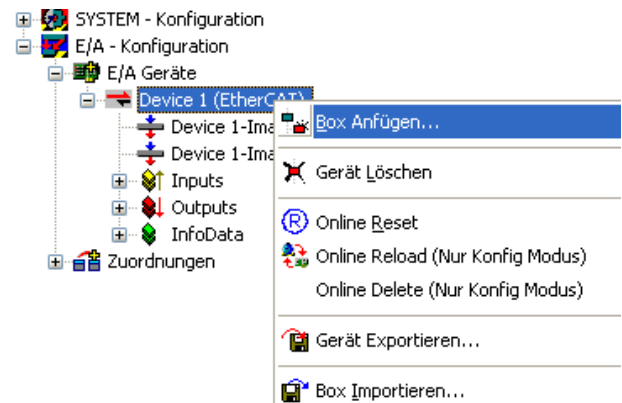

Fig. 6-4: Appending box
- Append the box, see Fig. 6-4.